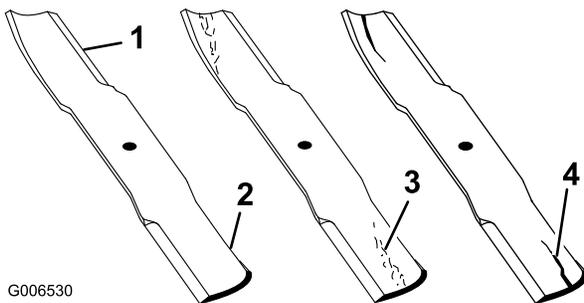

Figure 70
2. Inspect the cutting edges (Figure 70). If the edges are not sharp or have nicks, remove and sharpen the blades. Refer to Sharpening the Blades (page 54).
3. Inspect the blades, especially the curved area (Figure 70). If you notice any damage, wear, or a slot forming in this area (Figure 70), immediately install a new blade.